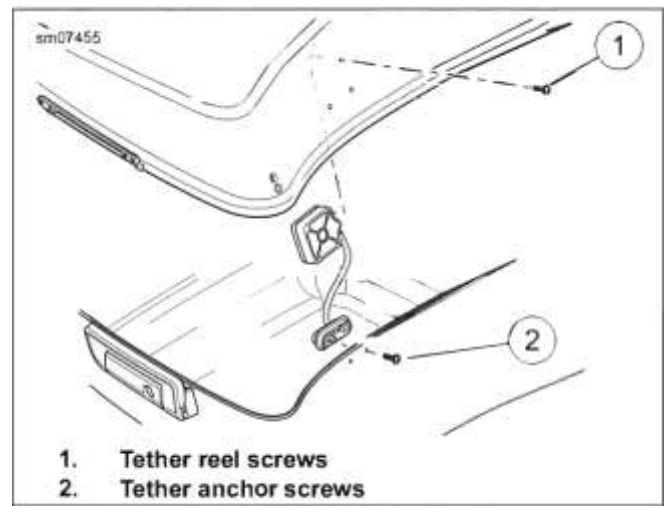

Figure 3-186. Tether Mechanism Screws
2. See Figure 3-186. Remove tether anchor screws (2).
3. Remove tether reel screws (1) securing tether reel.
1. See Figure 3-186. Secure tether reel with tether reel screws (1). Tighten.